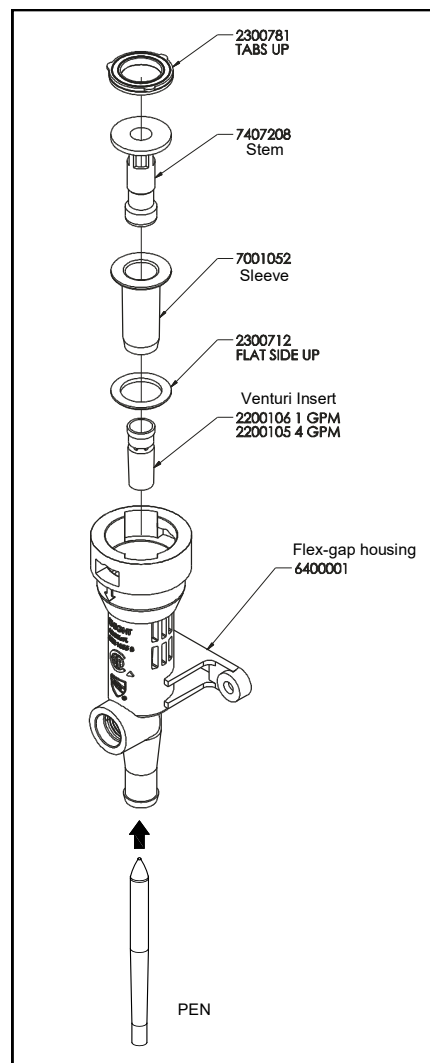

Figure 1 (Flex-Gap Assembly)
- (1) Remove the cover by gently snapping it away from the unit.
- (2) Disconnect tubing from Flex-Gap housing.
- (3) Twist the Flex-Gap housing counter-clockwise to remove it from the water valve body.
- (4) Push out existing venturi tube by inserting a pen up through the bottom of the Flex-Gap housing (note the order of the parts as they are removed from the flex-gap/venturi housing). **See Figure 1**
- (5) Insert the new venturi insert (for the desired flow rate) into the Flex-Gap housing, ensuring that it seats firmly. Place the flex-gap parts in the order removed from the previous step.
- (6) Twist the Flex-Gap housing clockwise to reattach it to the water valve.